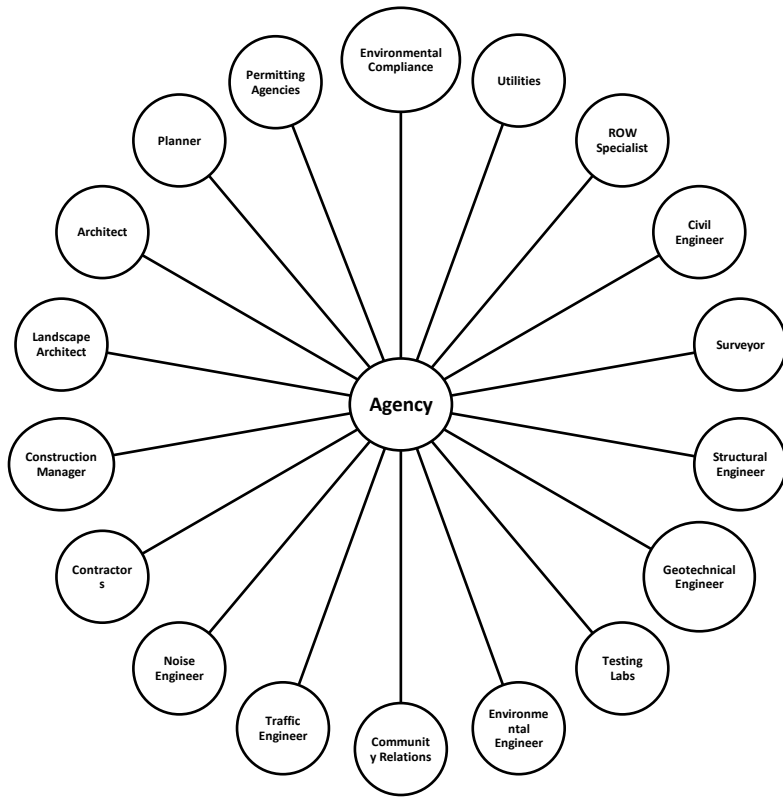

Figure 1: Project without Project Manager
A *project manager* (PM) with the necessary expertise is critical to keeping the project on schedule. Without a project manager, an agency will have to deal with each individual participating in the project, such as architects, engineers, contractors, and other parties. Hiring a PM can be more efficient for the entire project's progress. Figures 1 and 2 show how the project development process differs if a PM is used.